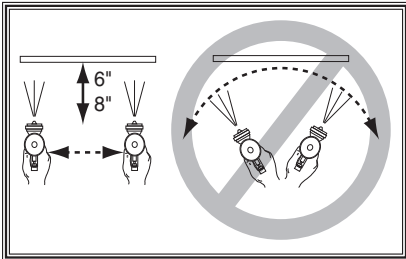

Figure 4. Spray technique.
- Keep the gun tip perpendicular to the ground, parallel to the spraying surface, and 6-8" from the work (as shown in **Figure 4**) when spraying. Do not allow your wrist to bend. This will cause the gun to arc across the surface and distribute the material unevenly, possibly creating sags and dry spots.